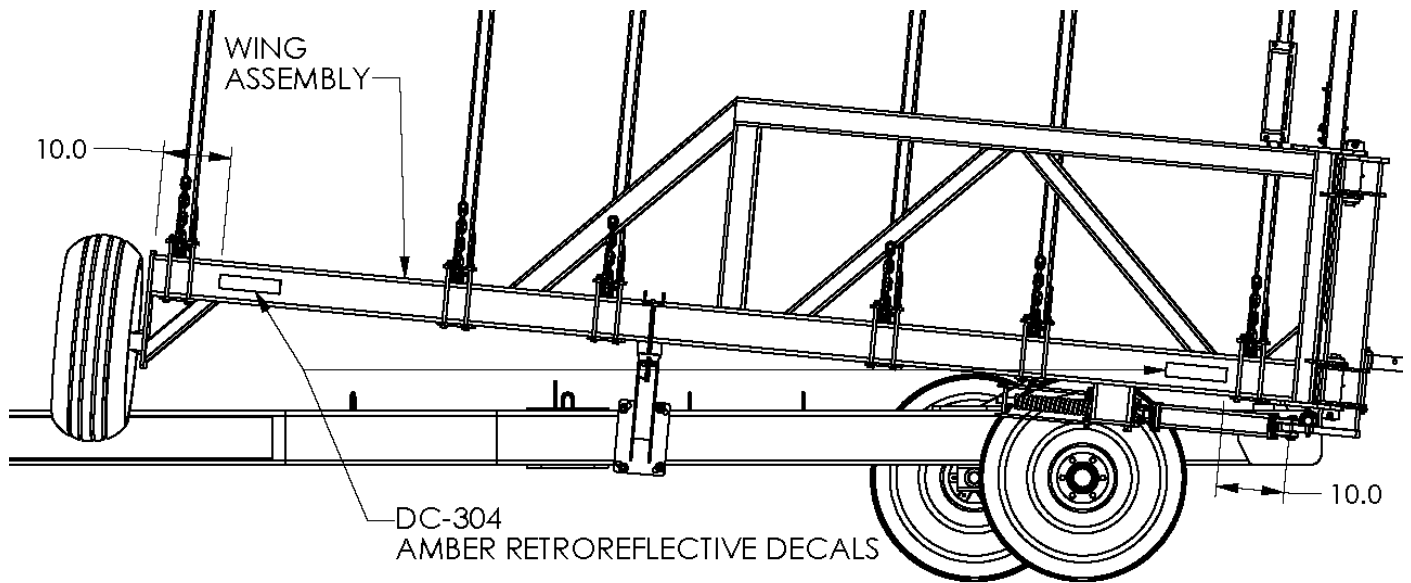

Figure 28
2. Apply the amber retroreflective (DC-304) decals to both wings as shown in Figure 28.